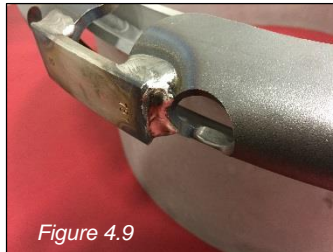

Figure 4.9
12. Strap Splices and Strap Hinges: The splices holding the strap segments together must not be bent, twisted or separated from the strap segments (no broken welds). (Figure 4.9)